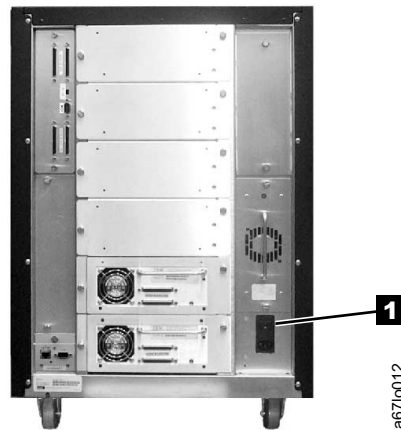

Figure 37. Main power switch
1. Ensure that the power switch is set to off by pressing O on the power switch (see **1** in Figure 37).